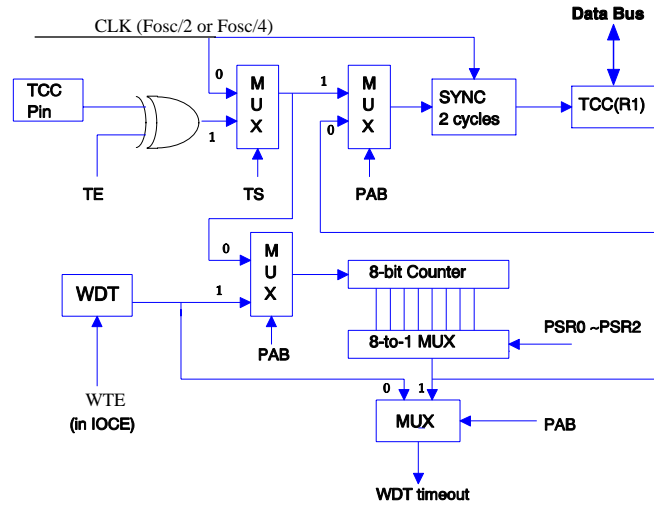

Fig. 5 Block diagram of TCC and WDT
There is an 8-bit counter available as prescaler for the TCC or WDT. The prescaler is available for the TCC only or WDT only at the same time and the PAB bit of CONT register is used to determine the prescaler assignment. The PSR0~PSR2 bits determine the prescale ratio. The prescaler will be cleared by instructions which write to TCC each time, when assigned to TCC mode. The WDT and prescaler, when assigned to WDT mode, will be cleared by the WDTC and SLEP instructions. Fig. 5 depicts the circuit diagram of TCC/WDT.
- R1(TCC) is an 8-bit timer/counter. The clock source of TCC can be internal clock external clock input (edge selectable from TCC pin). If TCC signal source is from internal clock, TCC will increase by 1 in every instruction cycle (without prescaler). Refer to Fig. 5,  $CLK = Fosc/2$  or  $CLK = Fosc/4$  is depended on the CODE Option bit CLKS.  $CLK = Fosc/2$  if CLKS bit is "0", and  $CLK = Fosc/4$  if CLKS bit is "1". If TCC signal source is from external clock input, TCC will increase by 1 on every falling edge or rising edge of TCC pin.
Case(A) and Case(B) are independent options, that is, they can be selected individually. Note that once 4 oscillator periods within one instruction cycle is selected in Case(A), the internal clock source to TCC is  $CLK = Fosc/4$  instead of  $Fosc/2$  that is shown in Fig. 5.